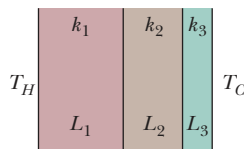

Fig. 18-45
••60  Figure 18-45 shows the cross section of a wall made of three layers. The layer thicknesses are L_1 , $L_2 = 0.700L_1$, and $L_3 = 0.350L_1$. The thermal conductivities are k_1 , $k_2 = 0.900k_1$, and $k_3 = 0.800k_1$. The temperatures at the left and right sides of the wall are $T_H = 30.0^\circ\text{C}$ and $T_C = -15.0^\circ\text{C}$, respectively. Thermal conduction is steady. (a) What is the temperature difference ΔT_2 across layer 2 (between the left and right sides of the layer)? If k_2 were, instead, equal to $1.1k_1$, (b) would the rate at which energy is conducted through the wall be greater than, less than, or the same as previously, and (c) what would be the value of ΔT_2 ?